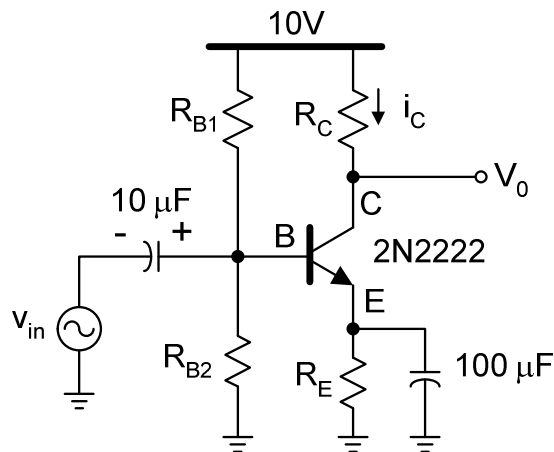
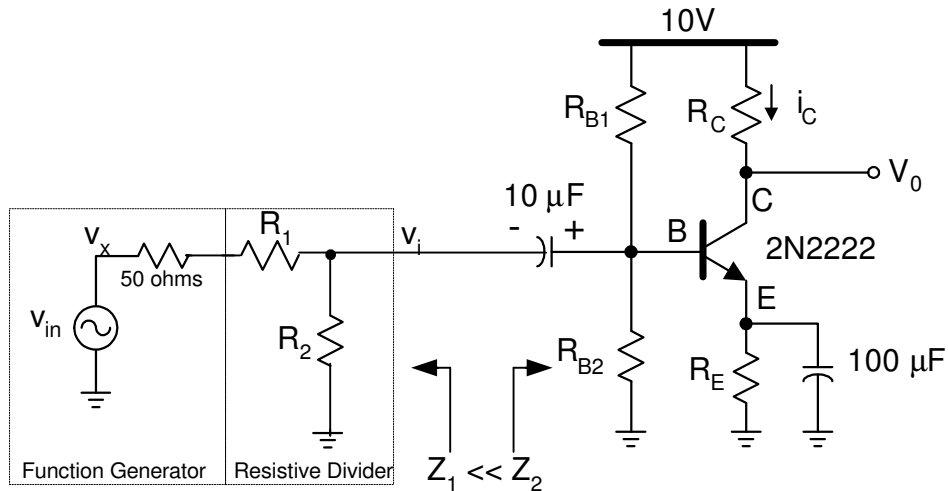

Fig. 3. Common-emitter configuration
Fig. 5. BJT CE amplifier Lab setup.
6. Find the value of the resistors for the circuit shown in Fig. 3 such that the magnitude of the small signal voltage gain is 40 dB, and the DC collector current is 1mA. Select the resistors lumped to the base such that $R_{B1} || R_{B2} > 100$ k Ω . Check first the operating point of your design, and verify that the voltage gain is approximately given by $-g_m R_C = -I_{CQ} R_C / V_{th}$. Compute the values for the input impedance seen at the base and output impedance seen at the collector.
8. Construct the circuit in Fig. 3 in Pspice and compare the simulated results and hand calculations. Explain the differences if any. Also, plot the frequency response over the range and find the low frequency and high frequency poles (adjust the frequency range until you see a lower and upper -3 dB frequencies).
5. To characterize the amplifier shown in Figure 3 in the lab, you will be required to apply a sinusoidal signal of 10 KHz and amplitude of 10 mV at the input of the amplifier. You may have to use a resistive voltage divider to reduce the amplitude of the signal provided by the signal generator if that cannot be as small as 10 mV. This setup is shown in Fig. 5. Use $R_1=400\ \text{ohms}$ and $R_2=50\ \text{ohms}$. For R_{B1} , R_{B2} , R_C and R_E use the values computed in the pre-lab.
In this section we set up the BJT CE amplifier (shown in figure 5) to perform distortion measurements. The common emitter amplifier has been designed with a small signal voltage gain of 40 dB, which is 100 V/V. The amplifier is connected to supply rails between +10V and Ground (0V). Also the voltage swing at the collector terminal is limited within a certain range (based Quiescent Voltage at the Collector in your design). It can be very easily seen that with a gain of 100 V/V, a small input amplitude levels at the base of the transistor can easily saturate the output of the amplifier and considerably distort the output. Hence we attenuate the signal from the function generator using a resistor divider before connecting it to the base terminal of the transistor. Following steps outline how to measure the distortion performance of such a configuration.
1. We will use the circuit configuration shown in figure 5. **The 50 ohms shown in Figure 5 is internal to the function generator. DO NOT place an external 50 ohm resistor.** We will use $R_1=400$ ohms and $R_2=50$ ohms to give us a division ratio of 0.1 from v_x to v_i .
* **Please note:** Be careful while calculating the output peak voltage obtained using the function generator and the resistor divider circuit indicated in Figure 5. When the function generator is set to have an output impedance of 50 ohms, the voltage produced *inside the function generator (node V_X or voltage V_{IN} Figure 5) is twice the value indicated on the display.* You need to calculate the voltage produced at V_1 accordingly. So when the function generator **displays** the output to be 50 mV pp, the voltage at the V_1 can be calculated as: $100\text{mV}*(1/10) = 10 \text{ mV pp}$ or 5 mV peak.